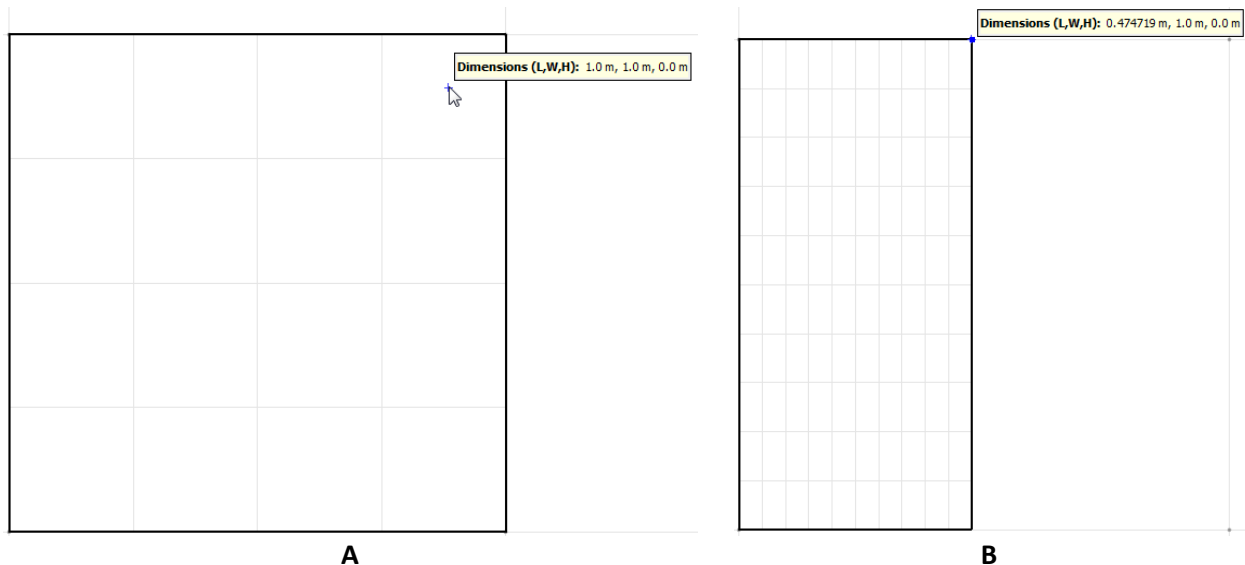

Figure 8.22. Two types of drawn meshes
- **Fixed Size:** each cell will have a fixed size. While drawing the mesh, the mesh boundary will snap to integer multiples of the cell size. Figure 8.22 (A) shows a mesh drawn with fixed cell sizes of $.25 \times .25 \times .25$ m. As can be seen, the grid has been snapped away from the cursor the nearest multiple of $.25$ m.
- **Fixed Count:** each dimension of the drawn mesh will be evenly divided to have the specified number of cells. Figure 8.22 (B) shows a mesh drawn with fixed counts of $10 \times 10 \times 10$. As can be seen, the cells are stretched to match the drawn mesh boundary.